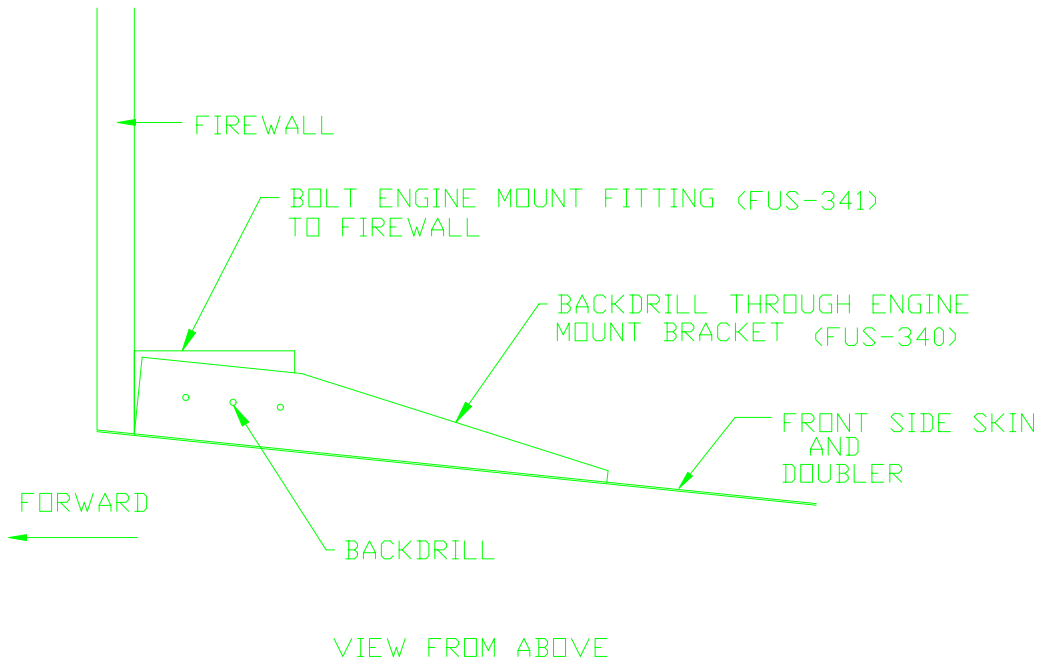

FIGURE 24
39) Nest a FUS-341 engine mount fitting into one of the just drilled engine mount brackets. Position to the inside of the firewall with a short $\frac{3}{8}$ " bolt. Ensure the engine mount bracket is pushed up against the firewall. Back drill the front side skin and doubler to #30. Figure 24.